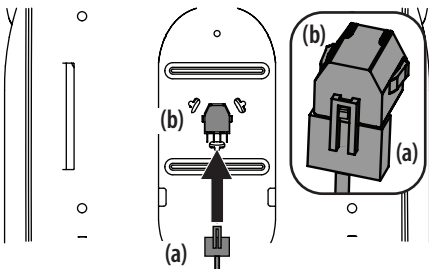

Figure 7
3. If necessary, securely connect the seat switch wiring harness (a) to the seat switch (b). See Figure 7. Secure excess wire away from pinch points before continuing.